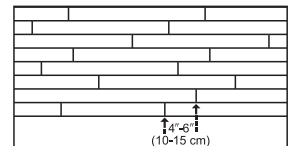

Figure 4
- Be attentive to staggering the ends of the boards at least 4"-6" (10-15 cm) when possible, in adjacent rows (Figure 4). This will help ensure a more favorable overall appearance of the floor.
- End-joints of adjacent rows should be staggered a minimum of 4"-6" (10-15 cm) when possible, to ensure a more favorable overall appearance (Figure 4).
- Check for a tight fit between all edges and ends of each plank. End-joints of adjacent rows should be staggered 4"-6" (10-15 cm) when possible, to ensure a more favorable overall appearance (Figure 4).